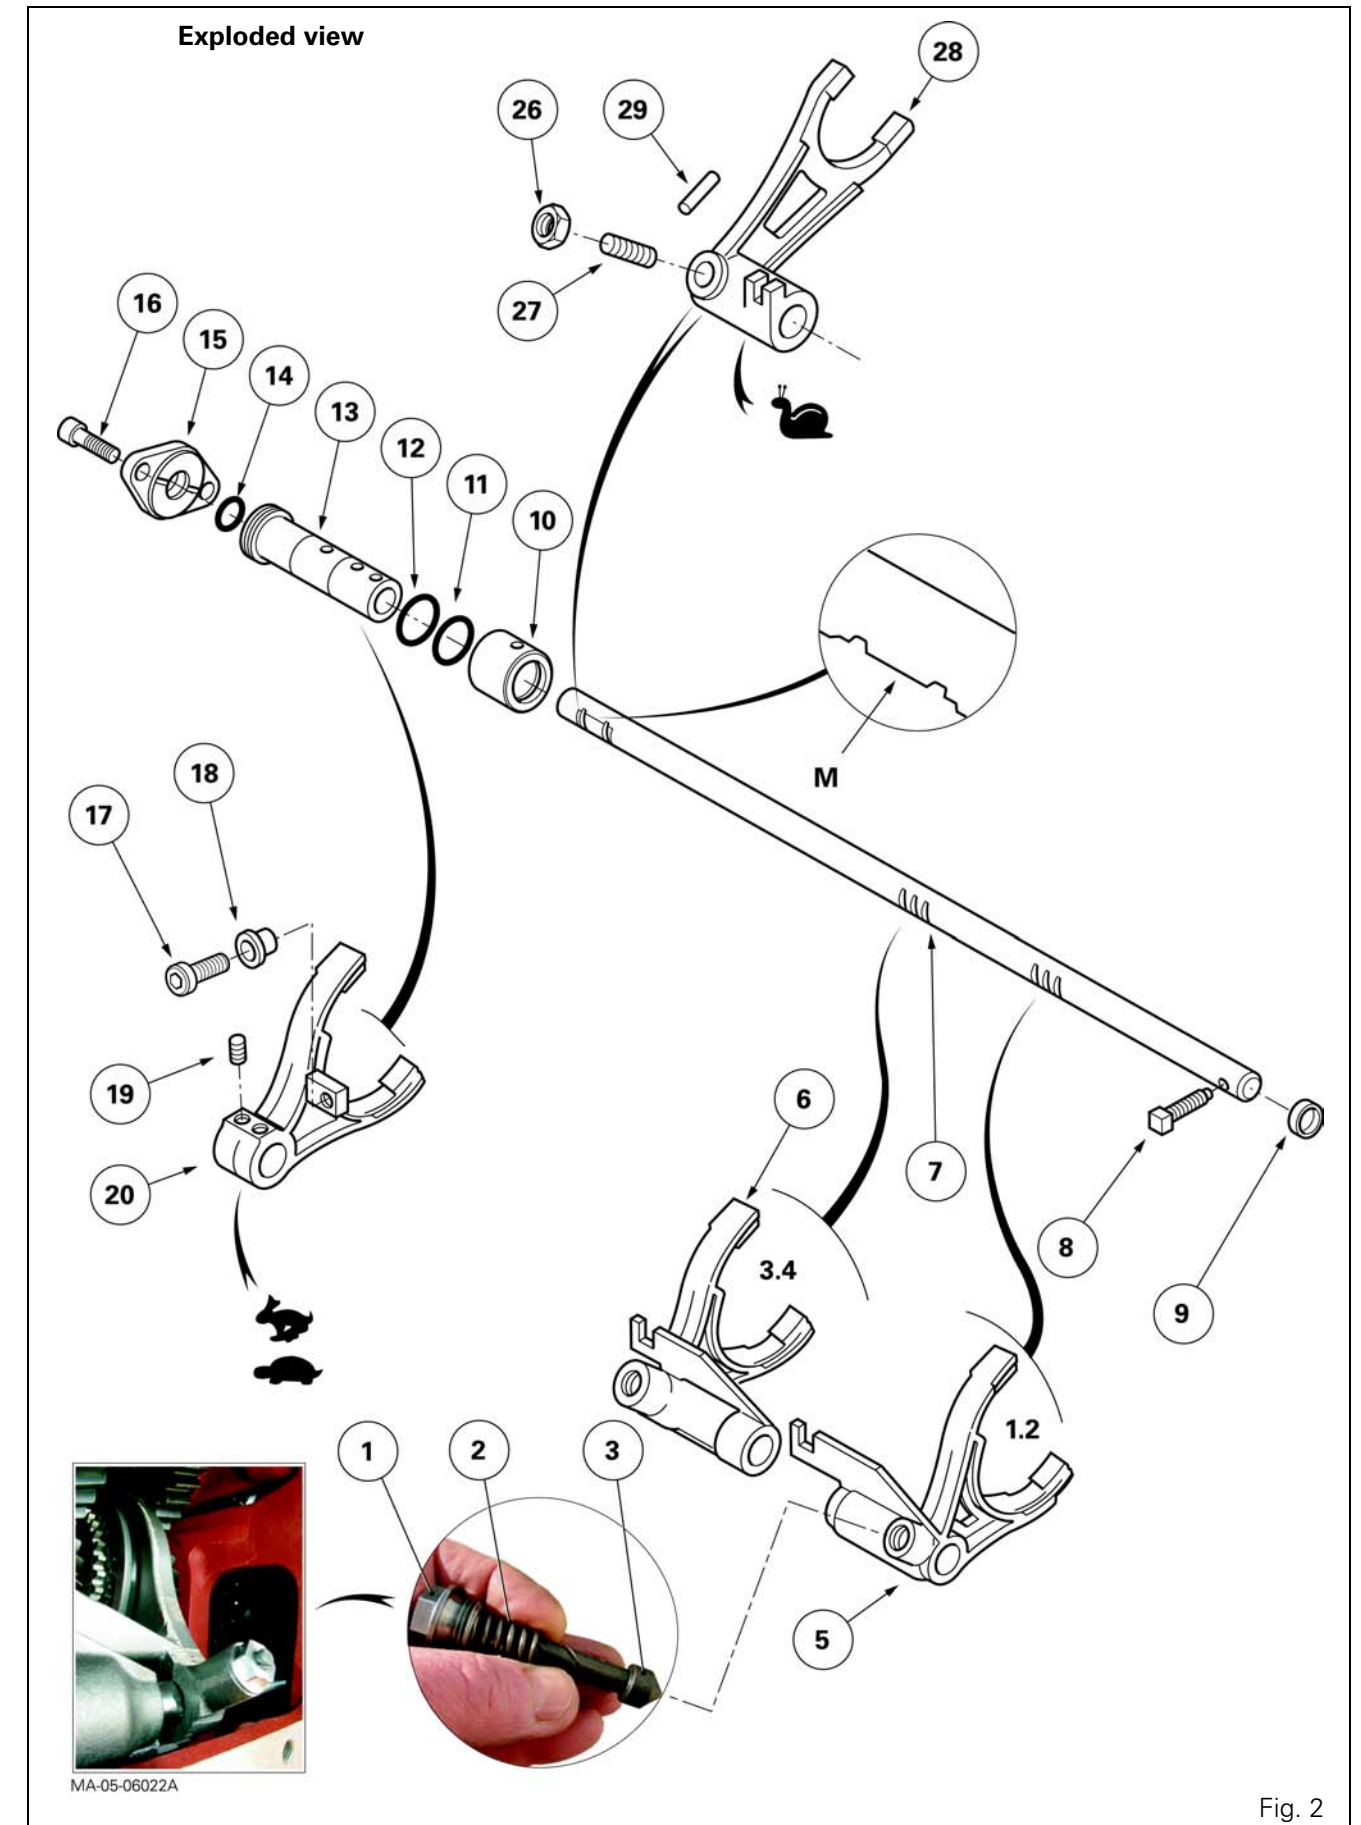

Fig. 2
Parts list (Fig. 2)
3. Remove the selector cover (see chapter 5). Take out the plugs (1), the springs (2) and the locking studs (3) to release the selector rail (Fig. 2).
28. Clean the set screw (8). Smear its thread with Loctite 542 and tighten to a torque of 38 - 43 Nm.
29. Ensure that the ball mounted at the end of the locking screw (27) returns correctly to its initial position after pressure has been applied manually by the locking screw. Position the fork (28) and locking screw on flat section "M" of the selector rail (7) (between the two locking catches) (Fig. 2)